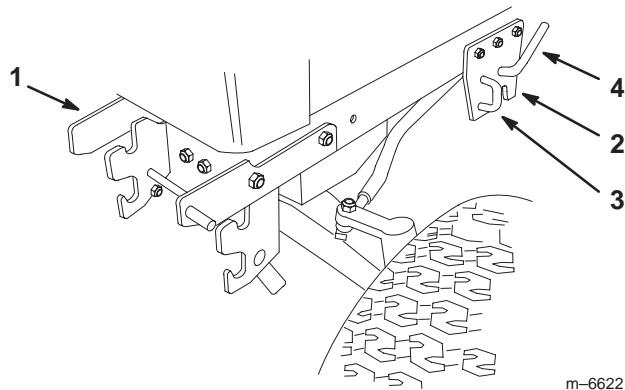

Figure 3
5. Open the mid-mount hitch by pulling out the J-pin and moving the lock handle rearward (Fig. 3).
11. Close the mid-mount hitch lock handle by rotating it forward (Fig. 3).